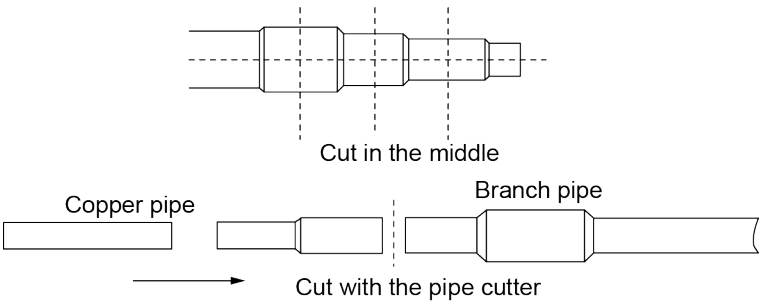

Fig.4.2.9
(3) Manifold has several pipe sections with different pipe size, which facilitates to match with various copper pipe. Use pipe cutter to cut in the middle of the pipe section with different pipe size. See the Fig.4.2.9 as below.